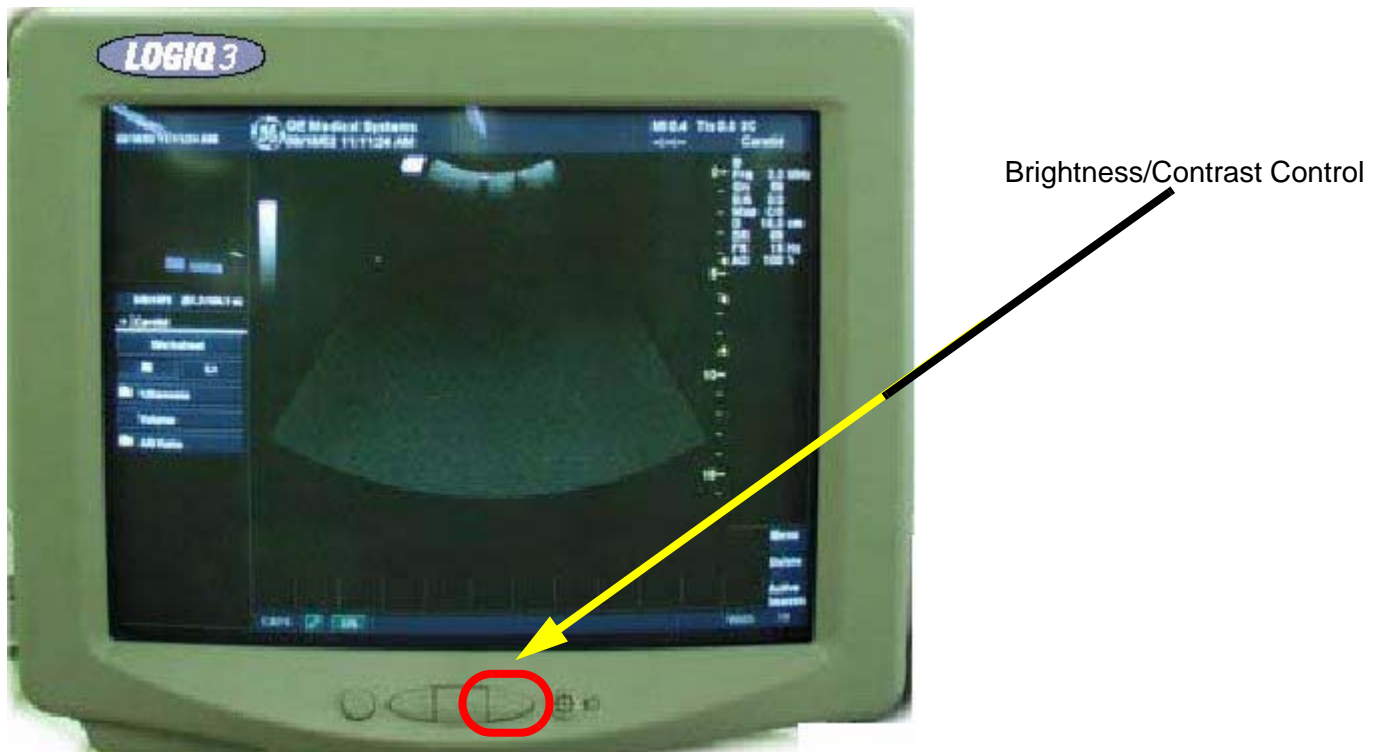

Figure 6-11 Brightness/Contrast Control
- 5.) Locate the Brightness/Contrast button on the monitor bezel as shown in Figure 6-11.
- 6.) Press and hold the Brightness/Contrast button on the monitor (as shown in Figure 6-11 above) for approximately 3 to 4 seconds.